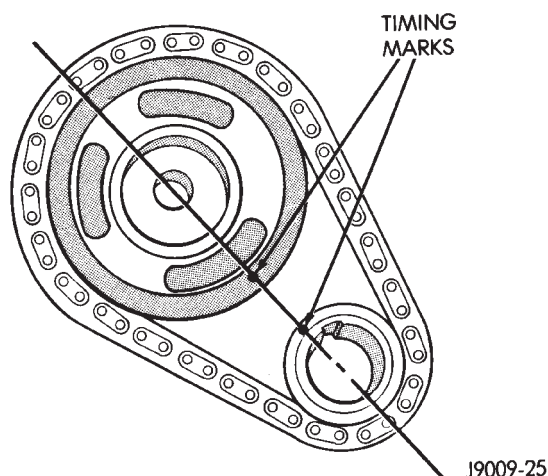
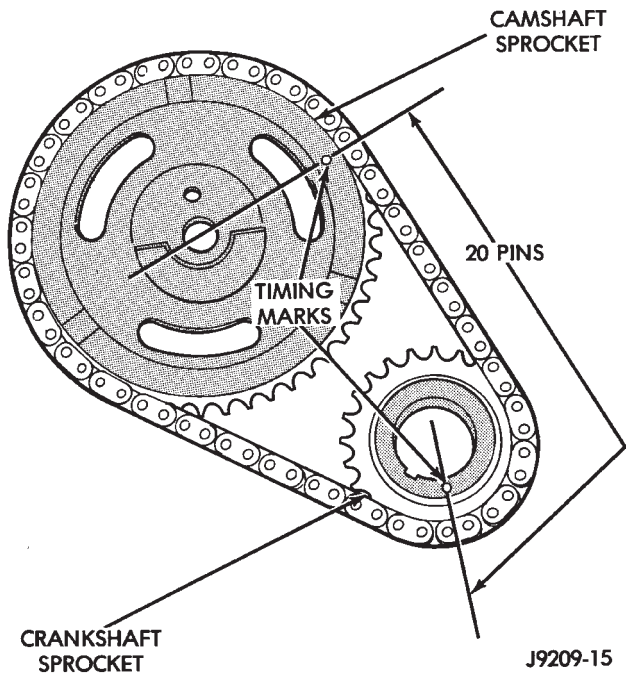

Fig. 43 Crankshaft—Camshaft Alignment
Fig. 46 Verify Sprocket—Chain Installation
- (1) Disconnect negative cable from battery.
- (2) Remove the fan and shroud.
- (3) Remove the serpentine drive belt.
- (4) Remove the crankshaft vibration damper.
- (5) Remove the timing case cover.
- (6) Rotate crankshaft until the "0" timing mark is closest to and on the center line with camshaft sprocket timing mark (Fig. 43).
(3) Apply Mopar Silicone Rubber Adhesive Sealant to the keyway in the crankshaft and insert the key. With the key in the crankshaft keyway, install the crankshaft, camshaft sprockets and timing chain. Ensure the timing marks on the sprockets are properly aligned (Fig. 43).
(4) Install the camshaft sprocket retaining bolt and washer. Tighten the bolt to 108 N·m (80 ft. lbs.) torque.
(5) To verify correct installation of the timing chain, turn the crankshaft to position the camshaft sprocket timing mark as shown in (Fig. 46). Count the number of chain pins between the timing marks of both sprockets. There must be 20 pins.